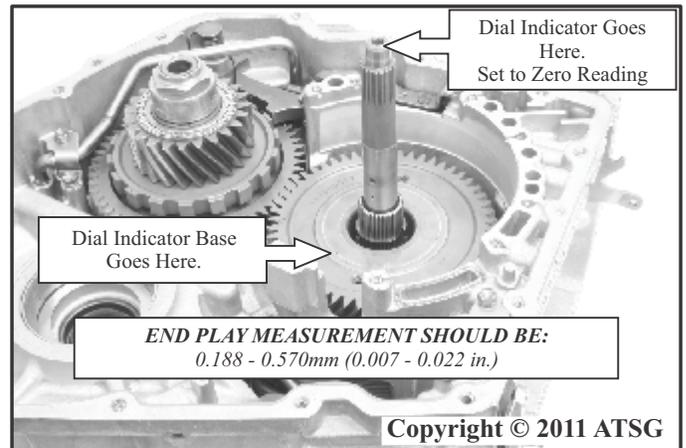

Figure 219
22. Rotate the transmission so the front section of the case is facing upward as shown in Figure 219.
23. Place SST J 45200 or similar dial indicator base onto the transfer gear as shown in Figure 219.